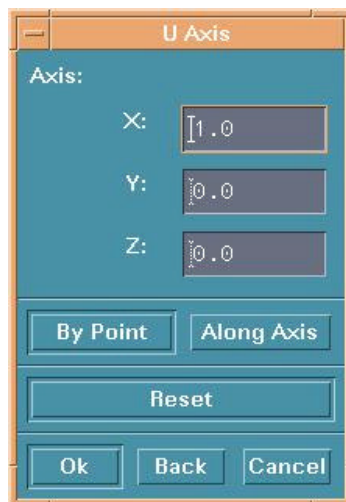

Figure 2.5.2 U Axis Definition
- Select BY POINT or ALONG AXIS from the U/V/W AXIS dialog (Figure 2.5.2) to define the axis. If BY POINT is selected, select a point in the display window to define the vector for the desired axis. If ALONG AXIS is selected, a dialog is displayed. The choices are ALONG X, ALONG Y, ALONG Z, ALONG U, ALONG V, ALONG W in the next dialog window select one and then DONE.